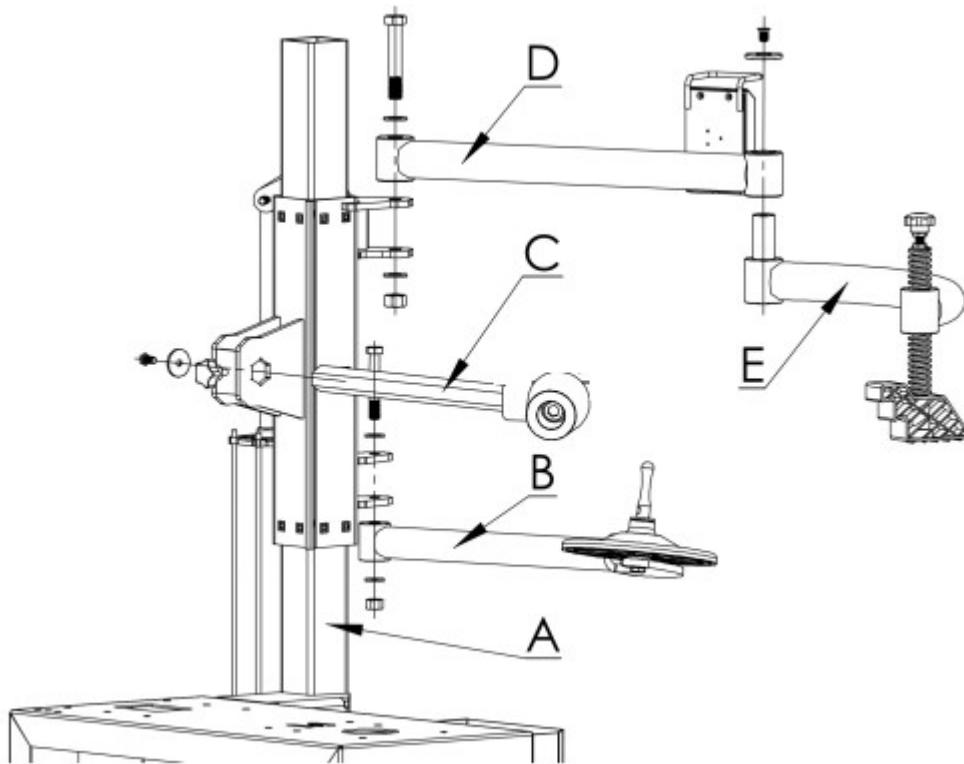

Fig. 6
- As in Fig.6, install the B, C, D, E in sequence use the screws and washers.